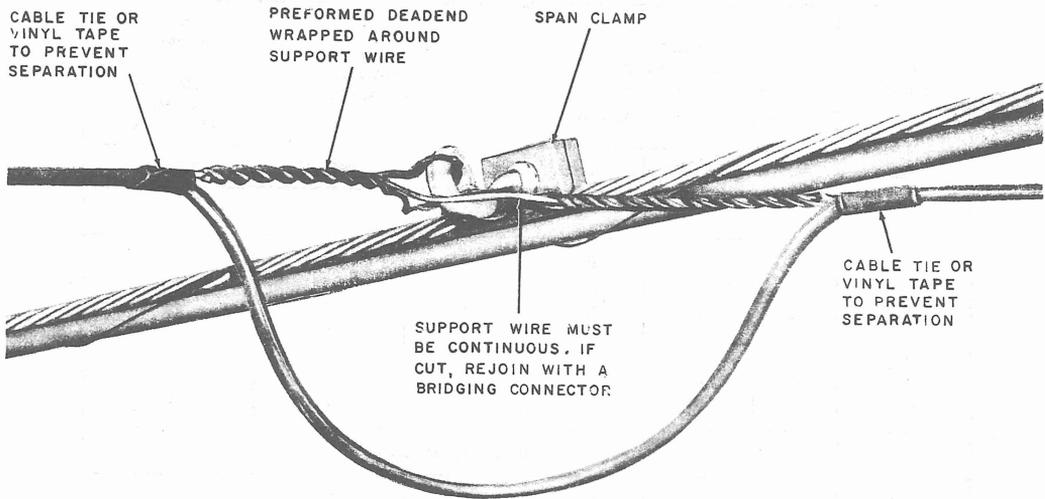

Fig. 15—Turn In Multiple Pair ASW Run at Midspan
4.06 When it is necessary to make a turn in the multiple pair ASW run at midspan, attach the drop wire as shown in Fig. 15.